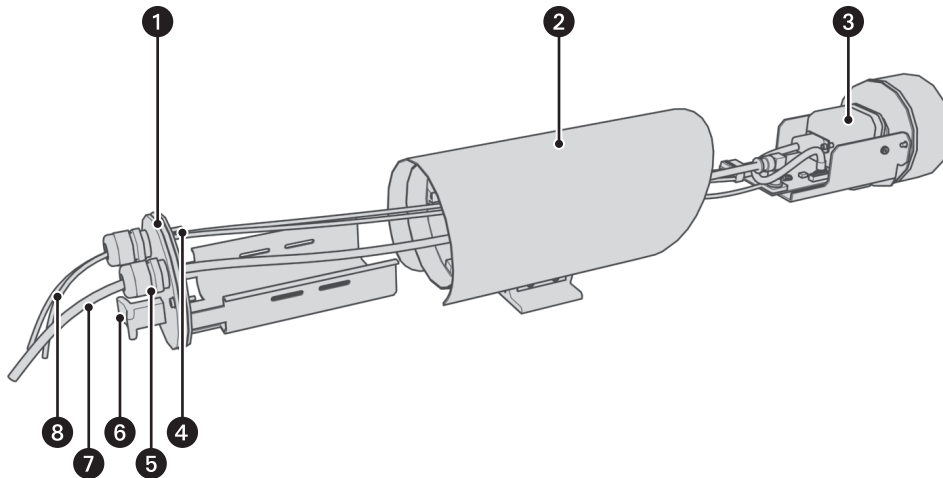

Figure 1. Exploded View of TI2500 Series Thermal Imager
2. Connect the shield drain conductor from the power cable to the ground stud on the enclosure's back plate (refer to Figure 1 on page 7). It is important to properly terminate the shielded cable at *both* ends to protect the system from voltage transients caused by lightning.